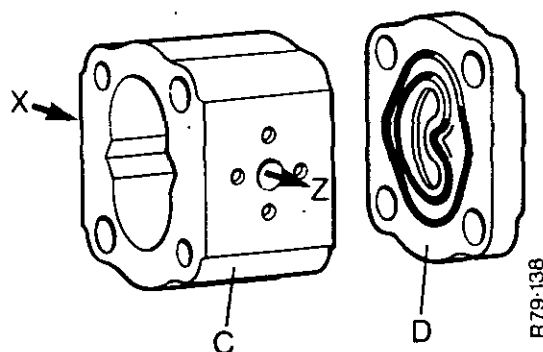

FIGURE 11. FITTING THE END COVER TO THE PUMP BODY
3. Assemble end cover to pump body. The end cover must be fitted so that the sealing rings are in the position shown in Figure 11.